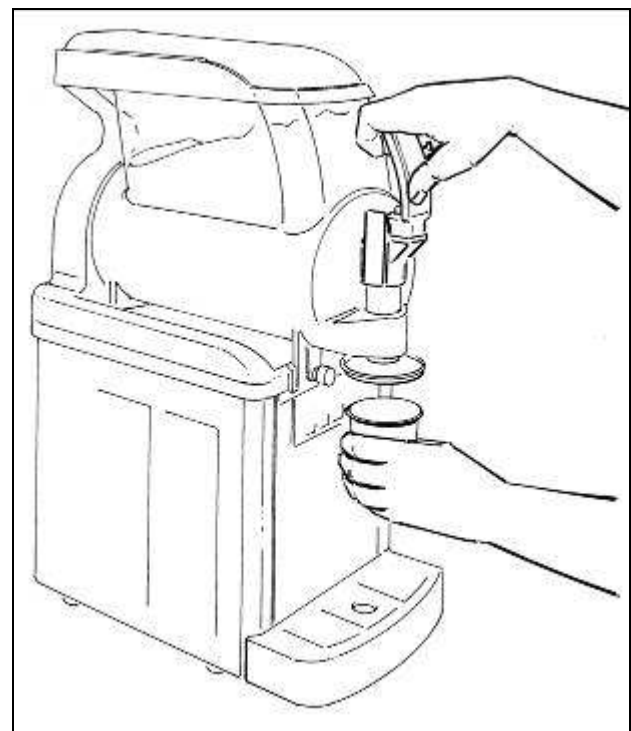

Fig. 7
- Once the desired product consistency is reached, to dispense product position a cup under the tap and lower the lever as shown in figure 7.